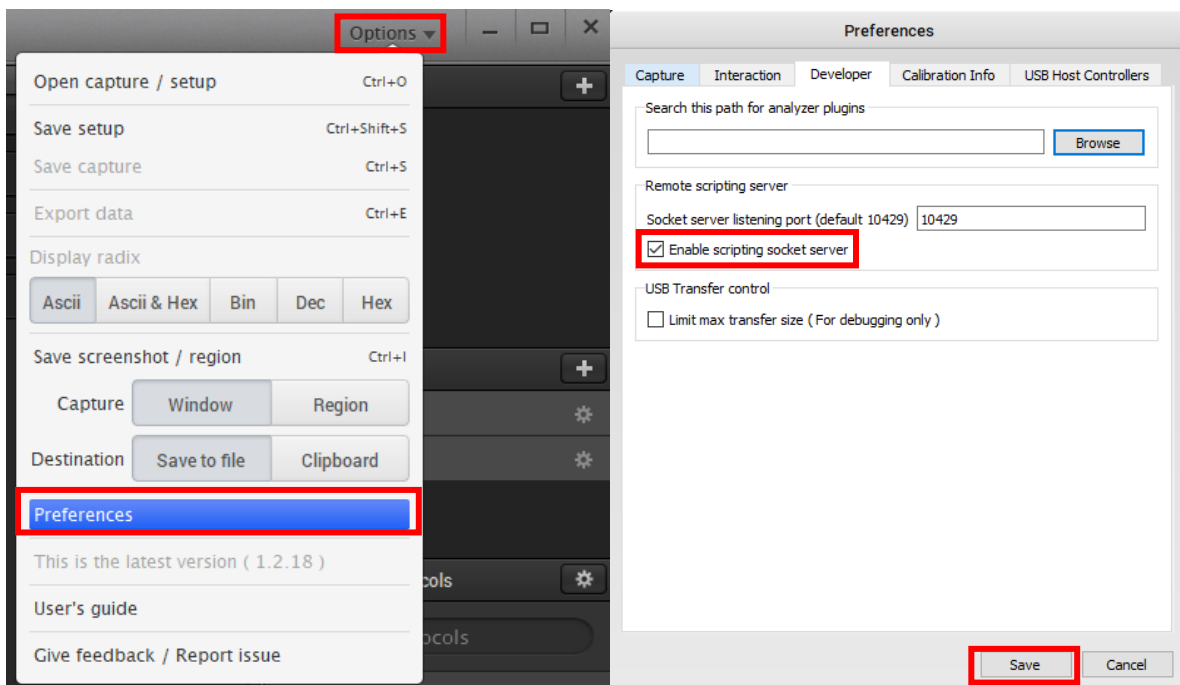

Figure 1: Enabling Saleae Logic Software scripting socket server
5. Open the “Options” menu, select “Preferences”, select the “Developer” tab, and check the “Enable scripting socket server” check box, shown in Figure 1: Enabling Saleae Logic Software scripting socket server
1. Load the bitstream to the FPGA with the "Program FPGA" button in the Xilinx SDK, shown in Figure 1.